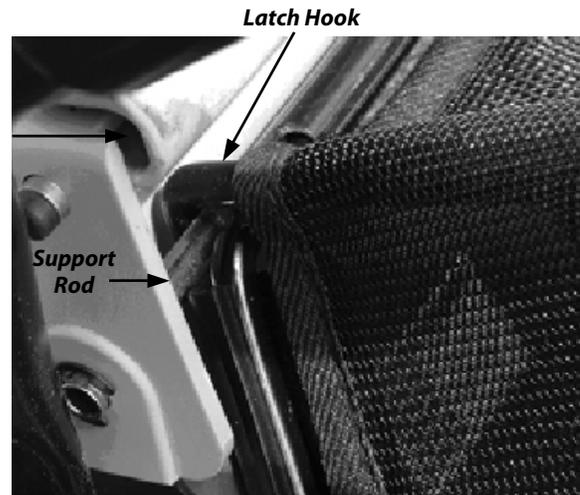

Figure 13
3. Align the Metal Latch Hooks (**Figure 13**) over the Support Rod and lower the Bagger in place until the Wire Frame at the bottom of the Bagger rests on the Mower.